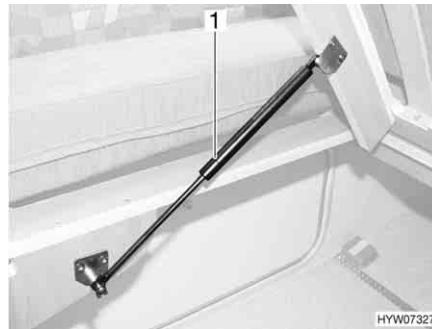

Fig. 111 Fixed bed
- Lift slatted frame. The gas-pressure springs (Fig. 111,1) hold the slatted frame open.